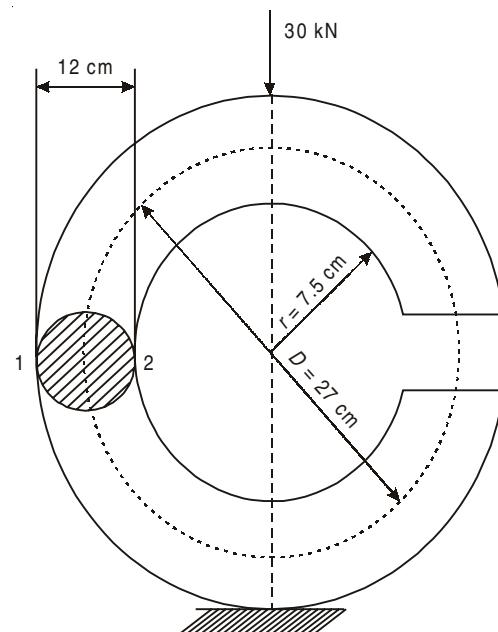

Fig. 11.25
15. A ring carrying a load of 30 kN is shown in Fig. 11.25 Calculate the stress at positions 1 and 2.